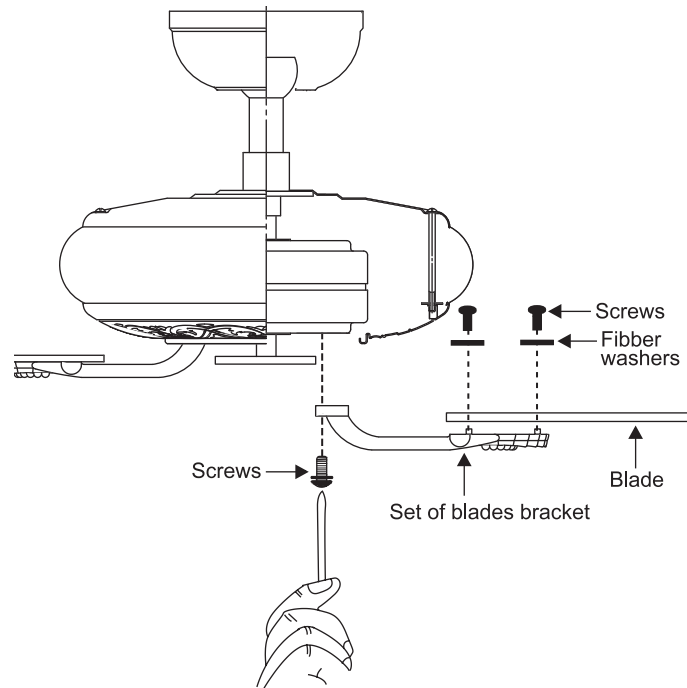

Figure 16
Step 1 Attach the blade to the blade bracket using the screws and fiber washers as shown in Figure 16. Start screw into bracket. Repeat for the two remaining screws.
Step 3 Fasten blade assembly to motor using the screws supplied. (Fig. 16)